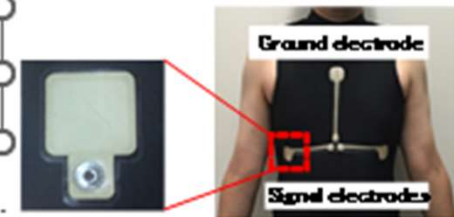

Fig.1 The wearable device for ECG
- In previous study, we developed the wearable device for ECG measurement. -Fig.1